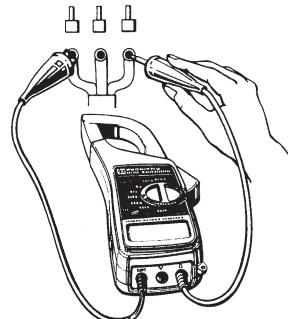

Fig.9
(4) Connect the clips of the test leads to the circuit under test. Take the reading on the digital display. (Fig.9)